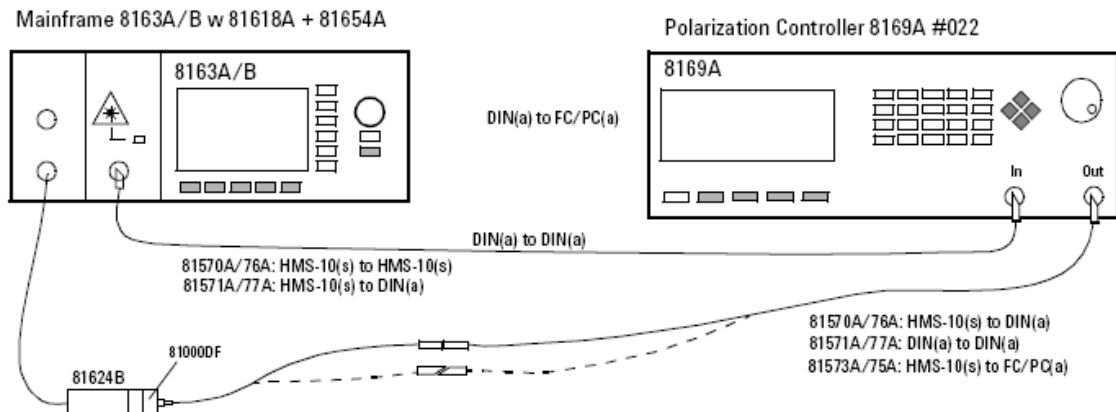

Figure 14 PDL Reference Setup for SM attenuators
- 3 Connect the equipment as shown in Figure 14